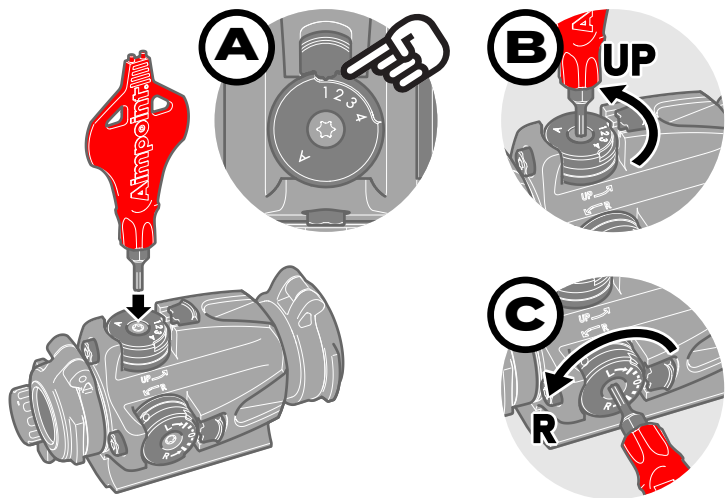

Fig. 4 Zeroing
Zeroing is performed by adjusting the torx T10 adjustment screw positioned in the center of the ballistic turret and the wind correction turret. See Fig. 4.
- b Set the ballistic turret to the "1" setting (see "A" in Fig. 4).
- e Elevation adjustments (see "B" in Fig. 4):
- f Windage adjustments (see "C" in Fig. 4):